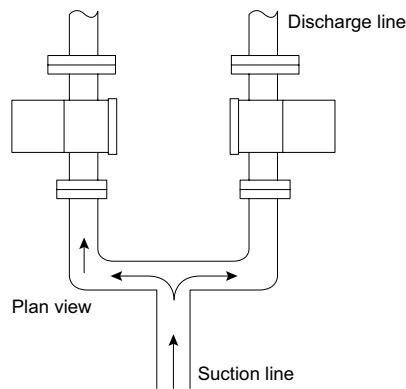

Fig. 12.1.1a Avoid common suction lines
- Take care with designing suction lifts and manifold/common suction lines for two positive displacement pumps running in parallel, as this may cause vibration or cavitation (see Fig. 12.1.1a). It is important to note that each pump have their own NPSH required value so NPSH available on a shared suction line requires sufficient availability on both pumps. Recommendation is to take both NPSHr values for a total and add an additional 1 m lc margin to NPSHa for suitable operation